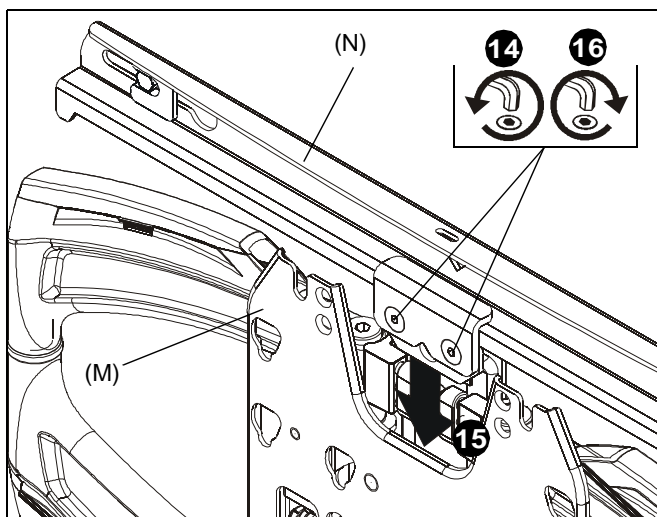

Figure 5
13. Loosen two flat head cap screws on upper carriage rail in order to loosen white spacer. (See Figure 5)
14. Remove white spacer from mount. (See Figure 5)
15. Tighten flat head cap screws. (See Figure 5)